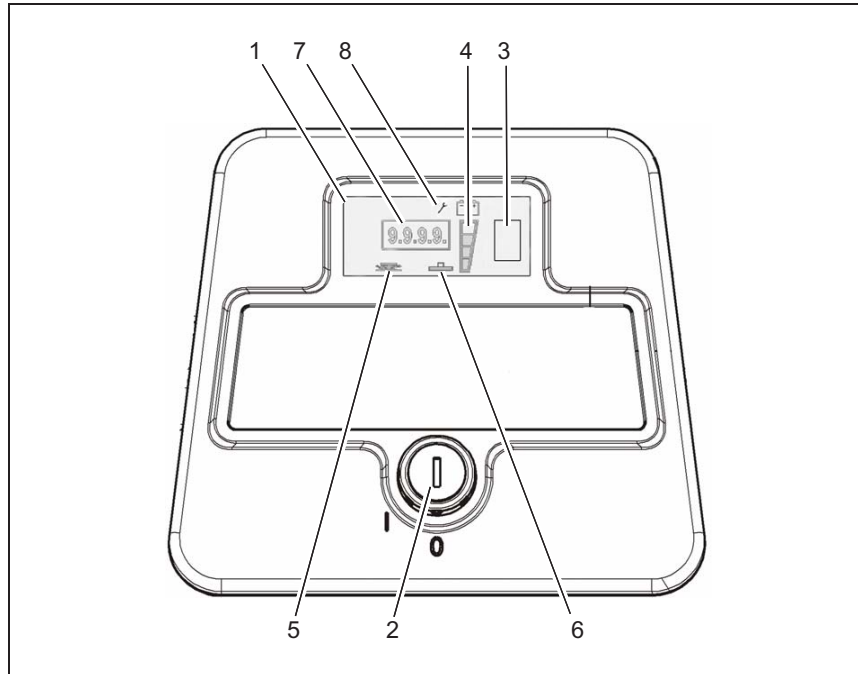

Fig.4
2. Use lever (Fig. 4/4) to lower squeegee. Suction turbine switches on automatically.
3. Use regulator (Fig. 4/3) to adjust clear water amount.
4. Use pedal (Fig. 4/10) to lower brush head. Clear water supply switches on automatically.
### Display (Fig. 4/1)
### Battery charge indication (Fig. 4/3)
### LDS indicator (Fig. 4/4)
### Symbol brush drive (Fig. 4/5)
### Symbol suction turbine drive (Fig. 4/6)
### Hourmeter (Fig. 4/7)
### Service indicator (Fig. 4/8)